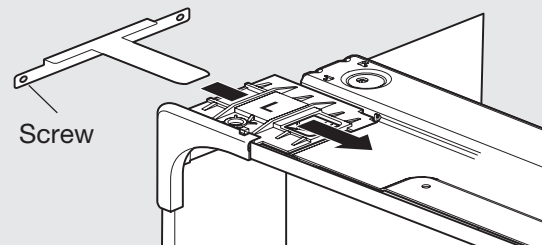

Figure 2-7. Side Mount Cabinet Clips
- a. Side Mount Cabinet Clips (Preferred Method of attachment) (See Figure 2-7)
NOTE: Install side mount brackets before unit is installed into the cabinet. Insert screws into the front holes of the mounting clips only. (See Figure 2-7)